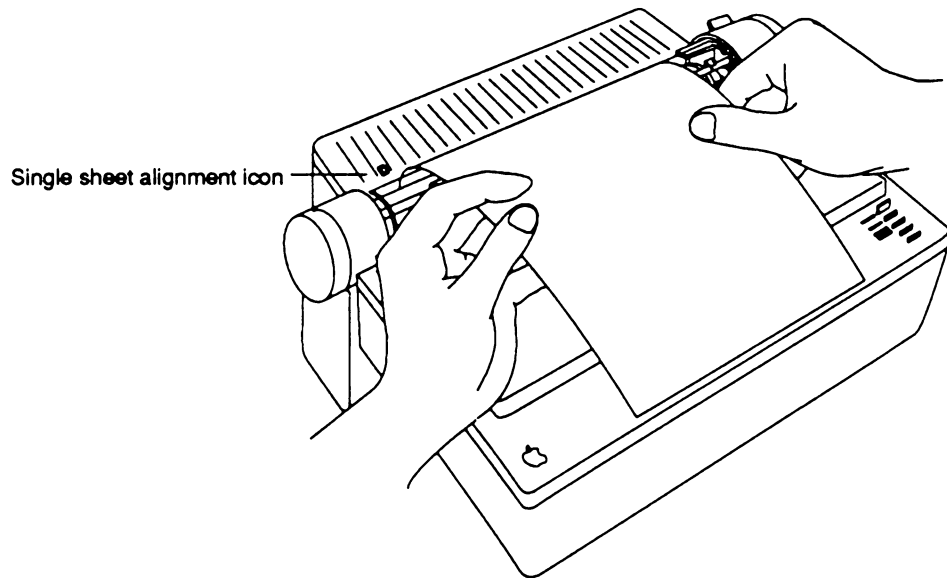

Figure 20. Aligning a single sheet of paper
4. Find the single-sheet icon on the left side of the back cover and line up the paper with the vertical line on the icon, as shown in Figure 20.